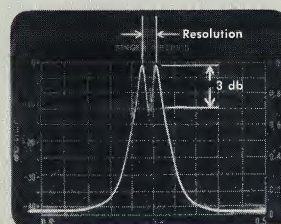

FIGURE 4
**Resolution:** The selectivity of an analyzer, i.e., the ability of a spectrum analyzer to display adjacent frequencies separately. Defined as frequency separation ( $\Delta f$ ) of two equal amplitude signals, the indications of which merge at the -3 db points. (See Figure 4, also "I-F Bandwidth").